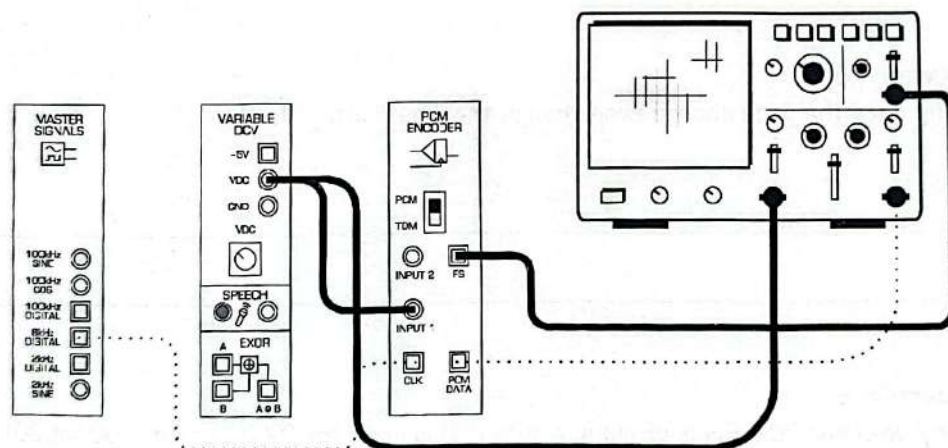

Figure 7
17. Modify the set-up as shown in Figure 7 below.
33. Remove the Buffer (or Adder) module to return the set-up that shown in Figure 7 and set the Variable DCV module's *Variable DC* control to about the middle of its travel.